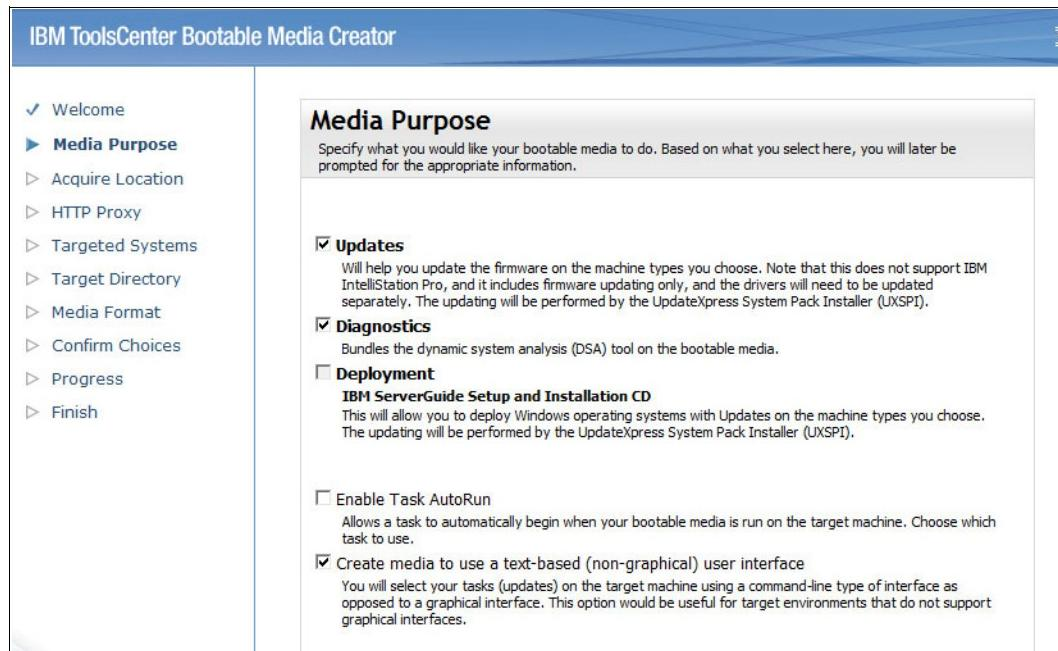
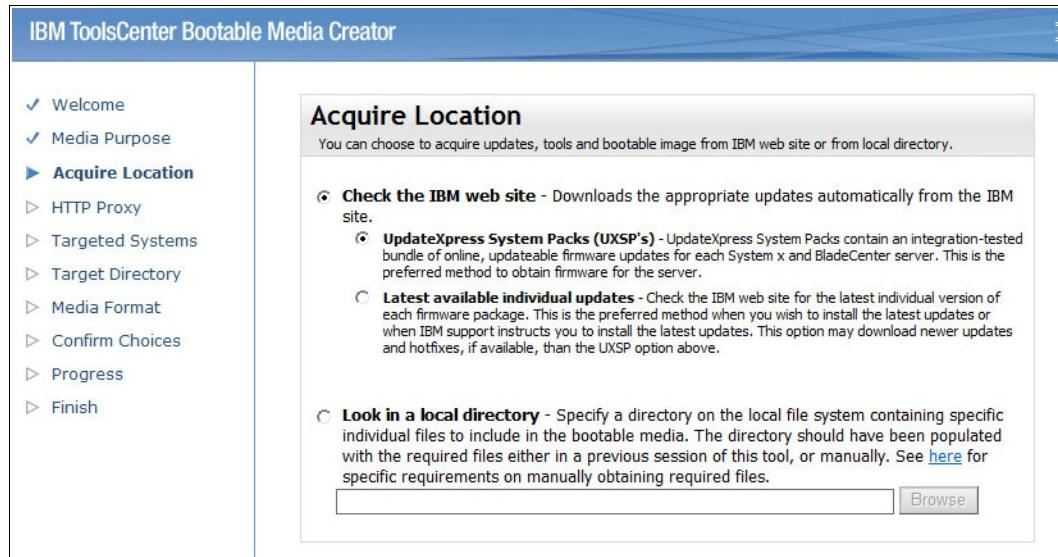

Figure 6-2 BoMC Media Purpose window
Figure 6-3 BoMC Acquire Location window
2. From the Welcome window, you can choose to load a previously saved configuration or to check for the latest version of this tool. Select either one, if applicable. If not, click **Next**. Figure 6-2 shows the Media Purpose window that is after the Welcome window.
- With the options selected in Figure 6-2 on page 117, click **Next** to go to the Acquire Location window shown in Figure 6-3.